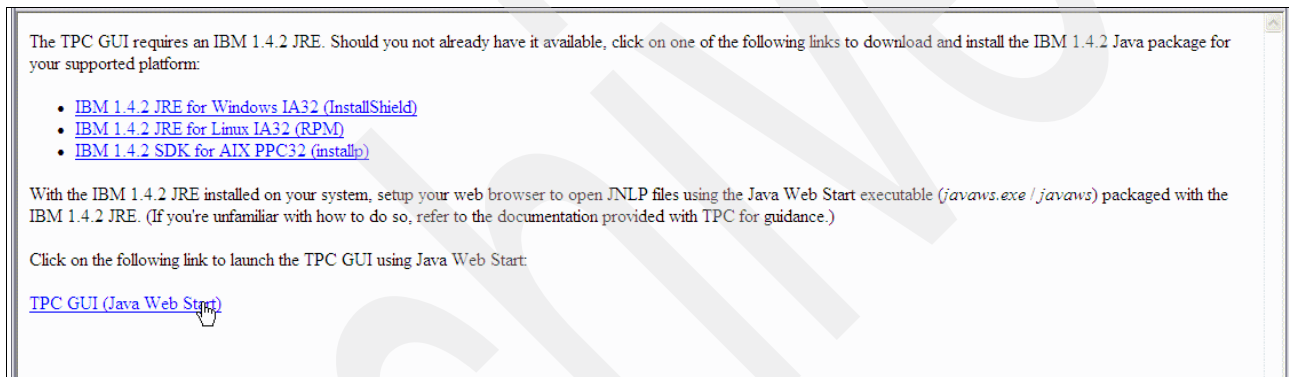

Figure 9-1 Index page of System Storage Productivity Center
1. Access the SSPC using your Web browser at the following URL (see Figure 9-1):
**Note:** The TPC GUI requires an IBM 1.4.2 JRE™. Select one of the IBM 1.4.2 JRE links (shown in Figure 9-1) to download and install it based on your OS platform.